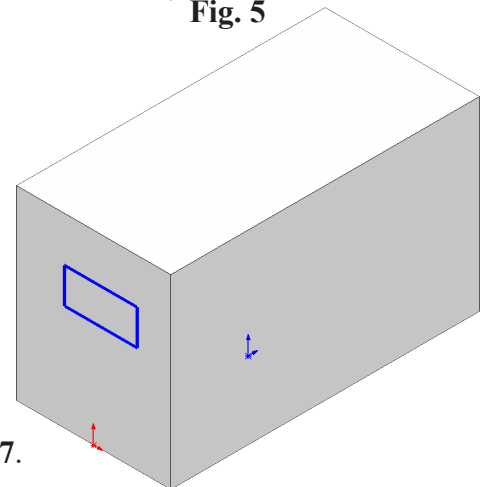

Fig. 6
Step 5. Sketch a **corner rectangle**, Fig. 6.